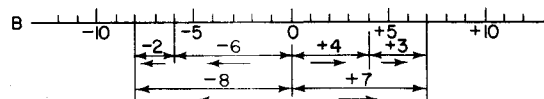

Fig. 1.15
1. To find the value of  $+4+3$ . Measure 4 units to the right of 0 and then a further 3 units to the right. The final position is 7 units to the right of 0 (Fig. 1.15).
of 0 and then a further 2 units to the left. The final position is 8 units to the left of 0 (Fig. 1.15).